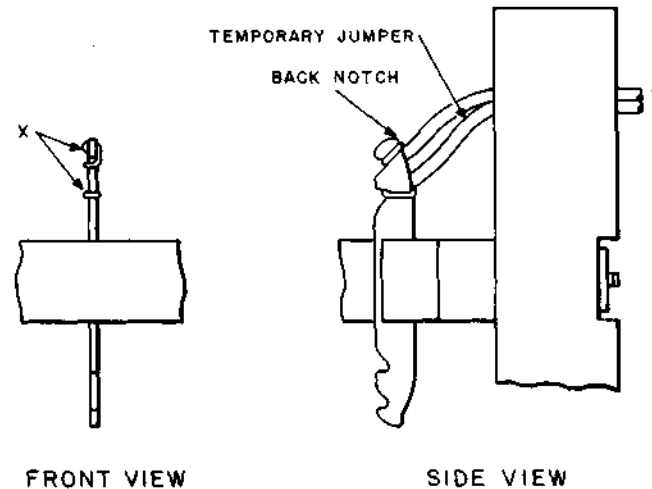

Fig. 18—Temporary Cross-Connections on No. 183C or Similar Type Terminal Strip With Twin Notch Terminals
12.09 The temporary jumper should be connected to the extra notch as shown in Fig. 18 and 19. See 8.13.